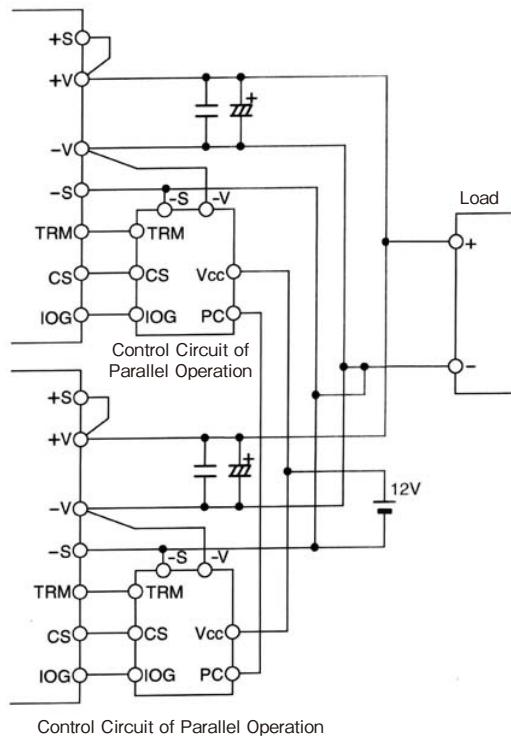
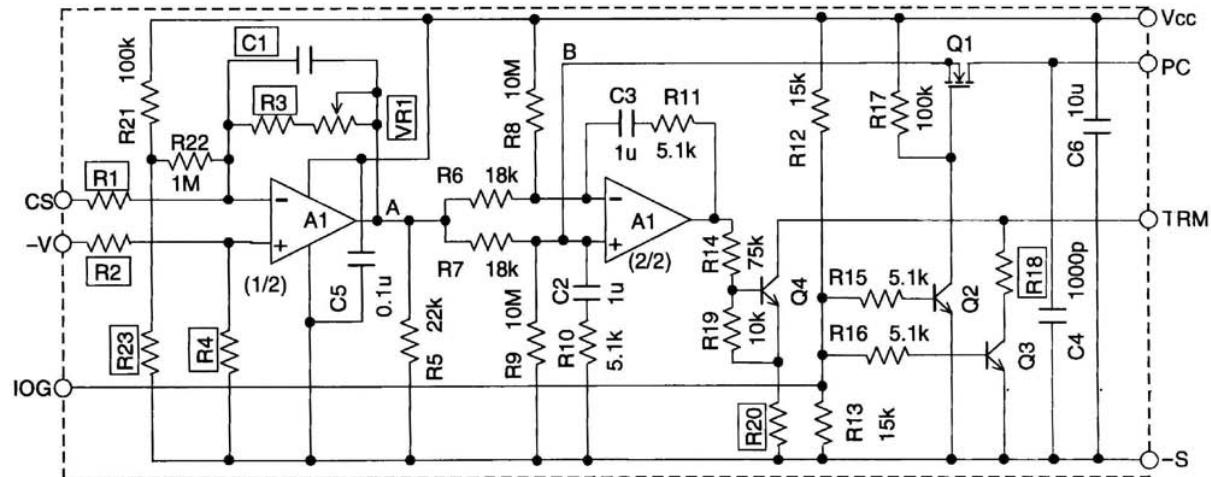

Figure3-1 Basic Connection Circuit of Parallel Operation
Figure3-2 Control Circuit for Parallel Operation
Basic circuit connection is shown in Figure3-1. For control circuit of parallel operation, individually connect a circuit shown in Figure3-2 to each PH300S, 600S series of power module of parallel operation.
## (2) Terminal Explanation of Figure3-2
For CS terminal voltage is a small voltage in negative polarity, Op-Amp A1 (1/2) is amplifier inverting shown as Figure3-2. For all of PH modules to be in parallel operation, VR1 shall be adjusted to equalize with the voltage at A point at full load. Setting voltage of A point is 3V to 5V, and the setting accuracy is within  $\pm 2\%$ . Voltage adjustment of A point can be adjusted with PC terminal of open circuit.
For choosing capacitor(s), refer to values expressed in Figure3-2 and values for each component shown in Table3-2. Use film capacitor or ceramic capacitor which has good temperature characteristics.
For choosing capacitor(s), refer to values expressed in Figure3-2 and values for each component shown in Table3-2. The tolerance shall be less than  $\pm 5\%$ .